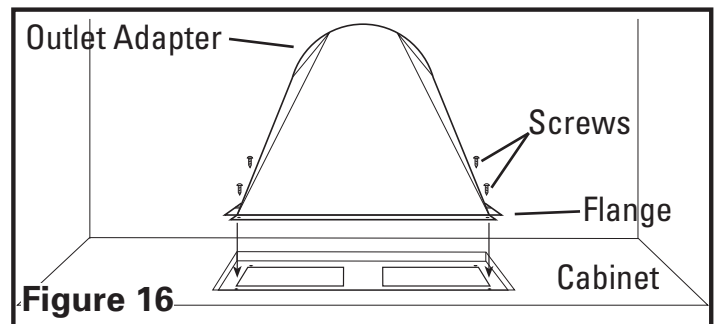

Figure 16
8. Install the proper sized outlet adapter (available separately) to the hood by sliding it down into the hole cut earlier and matching up the four holes on the flange of the adapter to the four corresponding holes on the hood and secure in place with the provided screws. Ensure an airtight seal around the adapter by securing all connections with ducting tape (**Figure 16**).